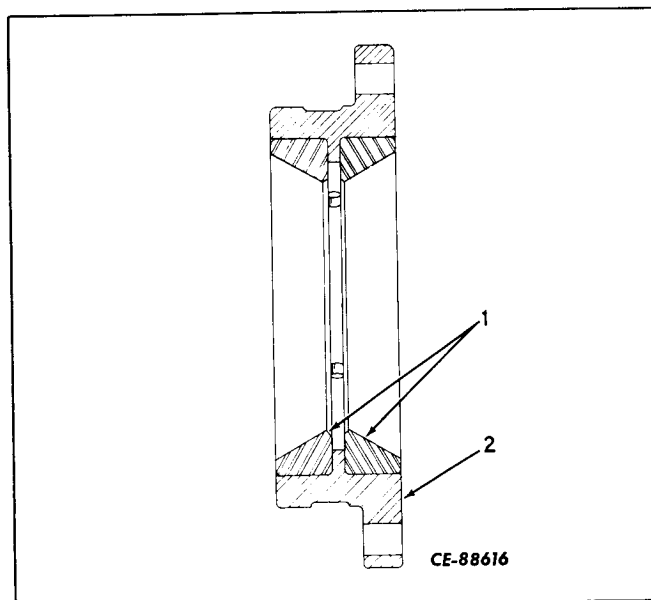

Figure 6-48
If new bearing cups (1, Fig. 6-48) are to be installed, press the cups firmly against pinion bearing cage (2) shoulders.